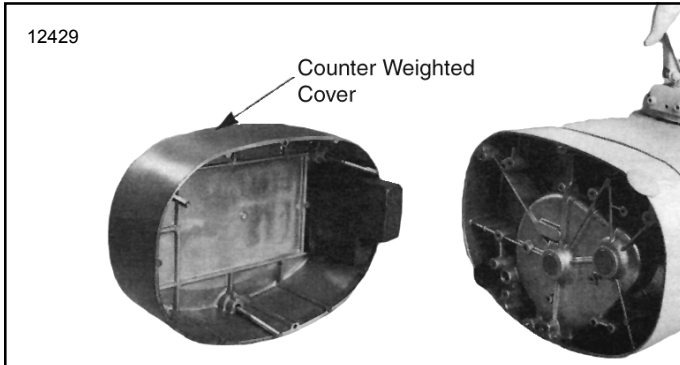

Figure 7-3. View of Hoist with Counterweighted Compartment Cover Removed
(1) Disconnect hoist from air source. Remove three cover retaining screws and lift off cover (Figure 7-3). Cover screws have retaining rings which hold them in cover. Use caution as cover contains a counterweight.